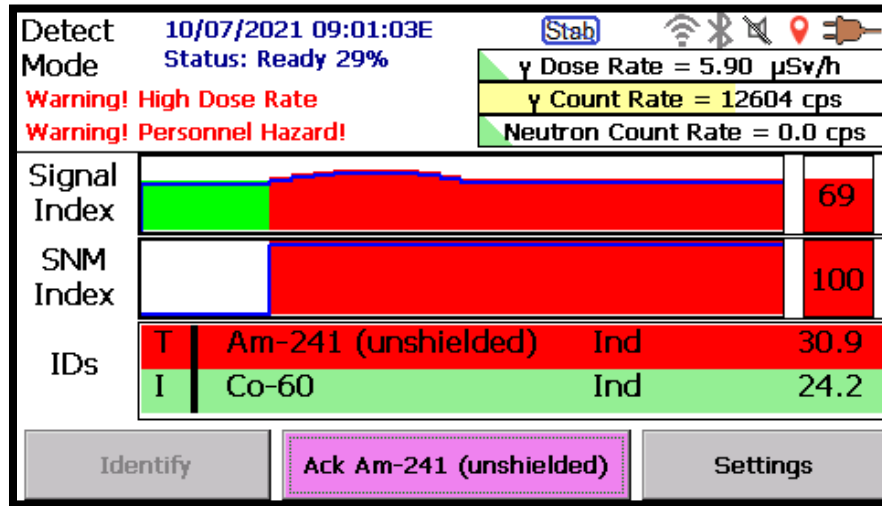

Figure 56. Threat Source Shown in ID List
In cases where there are multiple IDs and simultaneous alarms, the index charts will display the color of the highest priority alarm, and the highest-priority (highest threat-level) alarms will be displayed first in the list, as illustrated in Figure 56.
- If alarm acknowledgement is enabled (Section 4.5.1), the **Ack** (acknowledge) button will be displayed (refer back to Figure 56) and each ID must be acknowledged before proceeding, just as in Detect Mode.